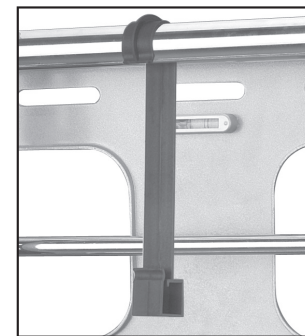

Fig. 2
7. Attach the cable manager to the middle of the top crossbar (Fig. 2).